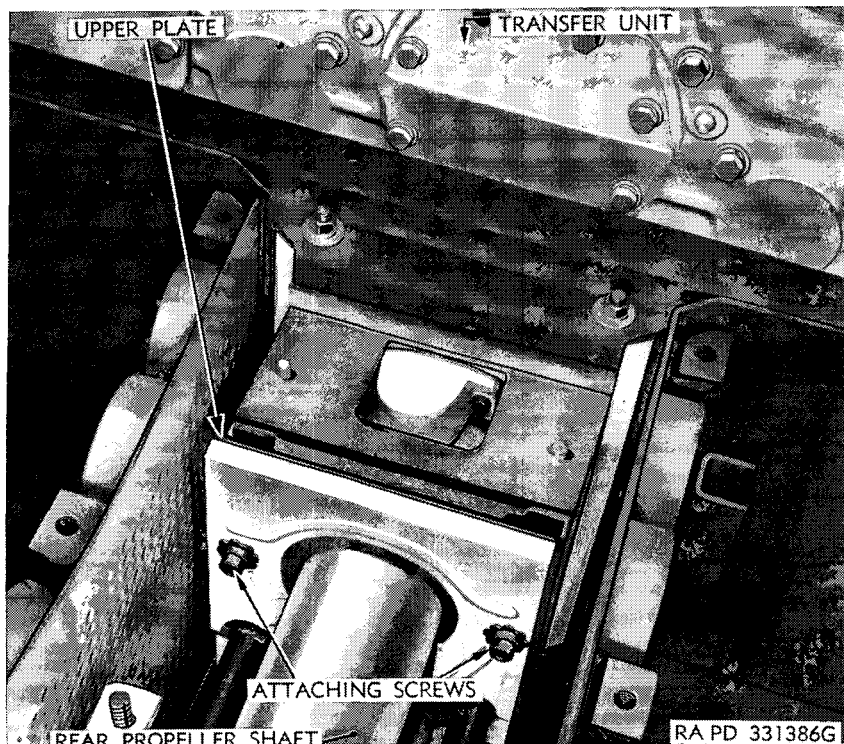

Figure 119. Bulkhead extension plate.
- (4) *Remove collector ring assembly.* Remove two cap screws holding conduit guard cover. Remove four nuts and lock washers for periscope box and four nuts and lock washers for oddment box and remove both boxes. Lift collector ring and turret control box to one side.
- (5) *Remove bulkhead extension seal.* Remove two screws holding seal in position at rear of tunnel and lift upper seal out of tunnel (fig. 119).